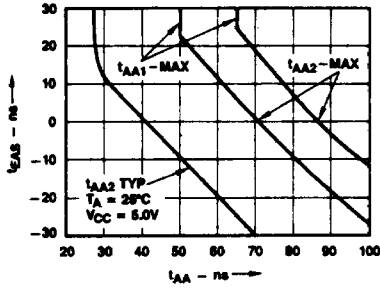

Figure 2A. t_{AA} versus t_{EA}
2. Address access time (t_{AA}) can be optimized if a chip enable set-up time (t_{EAS}) of greater than 25ns is observed. Negative set-up times on chip enable ($t_{EAS} < 0$) should be avoided. (For typical and worse case characteristics, see Figures 2A and 2B.)